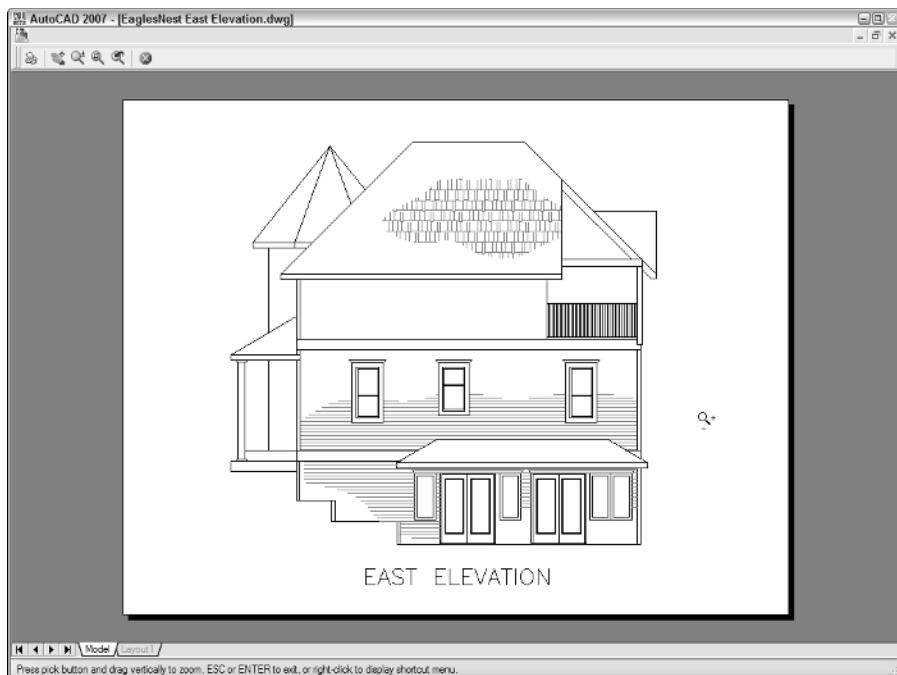

Figure 13-4:
14. Click the Preview button and check that the drawing displays on the paper at the correct orientation and size, as shown in Figure 13-4; then right-click and choose Exit to return to the Plot dialog box.